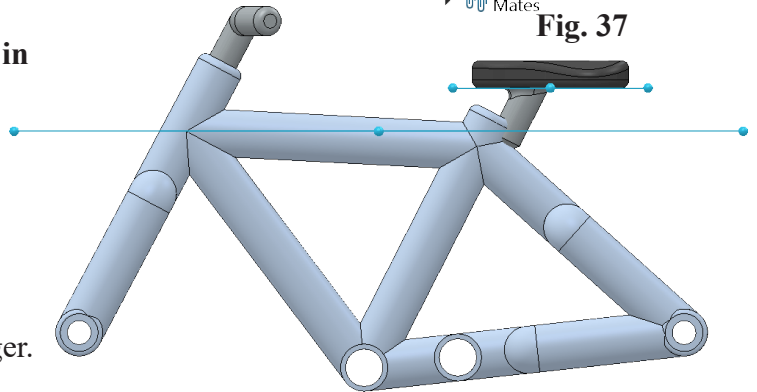

Fig. 39
Step 3. Click **Distance**  in Mate pop-up, **Fig. 38**. Set **distance 5.5** and press ENTER. The **Saddle** should be above Frame, **Fig. 39**. If positioned in opposite direction, click **Flip Dimension**